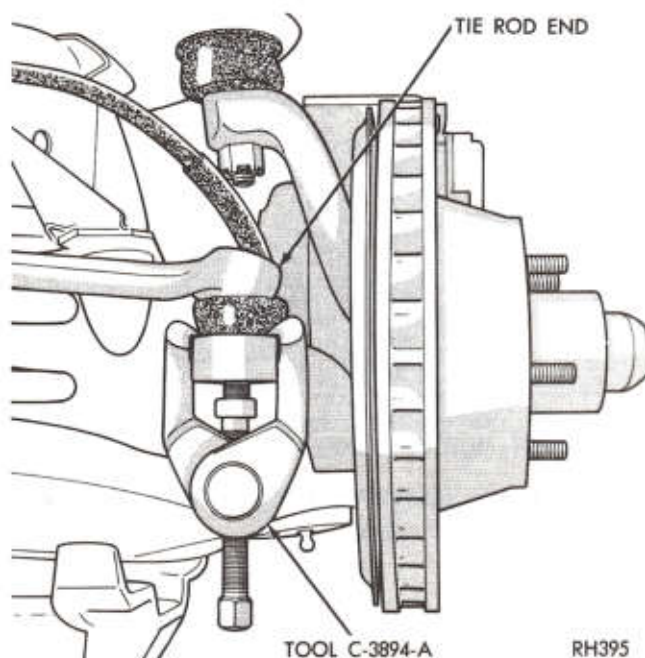

Fig. 12—Tie Rod End Puller Installed
(1) Raise vehicle on hoist.
(2) Remove cotter key and nut from tie rod end.
(3) Install tie rod end puller Tool C-3894A (Fig. 12). Apply sufficient pressure with tool to free tie rod end from knuckle arm or center link.
(4) Loosen tie rod sleeve clamping bolt and unscrew tie rod end.